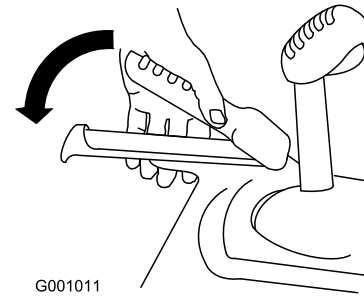

Figure 37
2. Engage the traction lever and hold it in place (Figure 37).